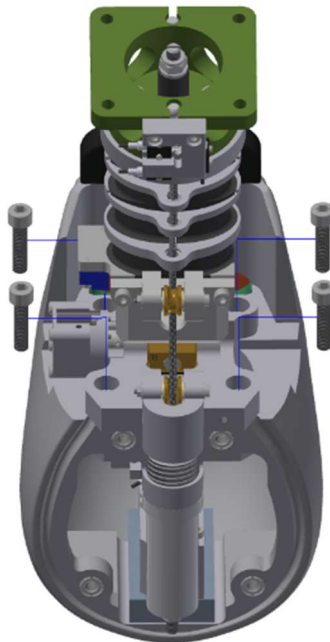

Figure 3-8. Head and neck assemblies
3.2.7 Remove the head from the neck assembly by removing four M6 X 1 X 25 LG. SHCS from the bottom side of the skull (474-1010) (Figure 3-8).